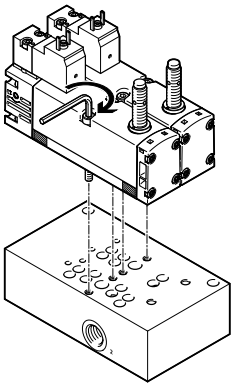

Fig. 13: Mounting the solenoid valves on the control block
7. Position the solenoid valve on the control block (→ Fig. 13) and tighten the 2 retaining screws with a SW3 Allen key (permissible tightening torque: 2 Nm ± 10 %).